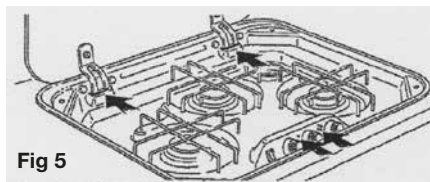

Fig 5
- Keep oven door in half-open position (fig. 5)
The slots indicated in fig.5 must be kept open.
5. Slide the holding tank into position through access door (fig. 5).